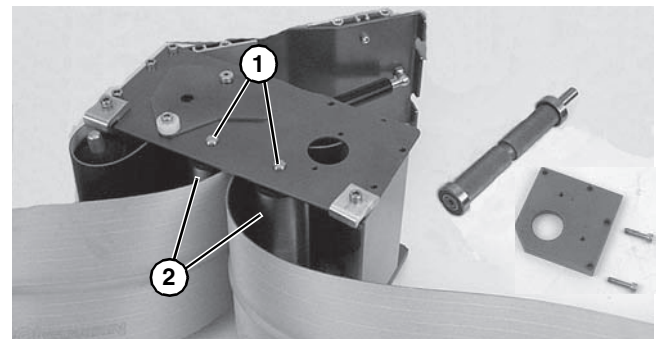

Figure 59
- For 5” (127 mm) or wider conveyor, depress both sides of each spring-loaded shaft (**Figure 59, item 1**). Remove pulleys (**Figure 59, item 2**).